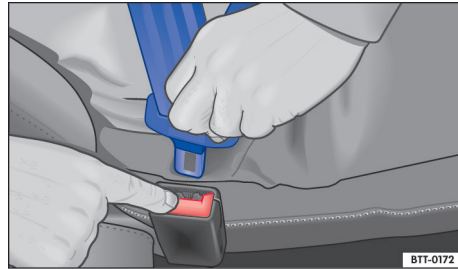

Fig. 26 Release the latch from the seat belt latch
- Press the red button on the latch, and the latch of the seat belt will pop out automatically from the latch → Fig. 26.